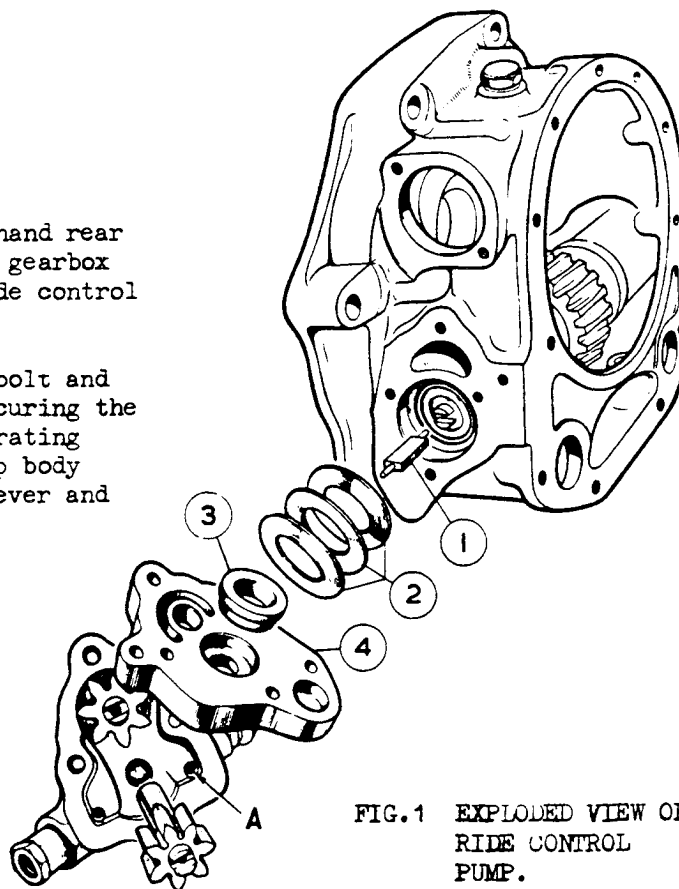
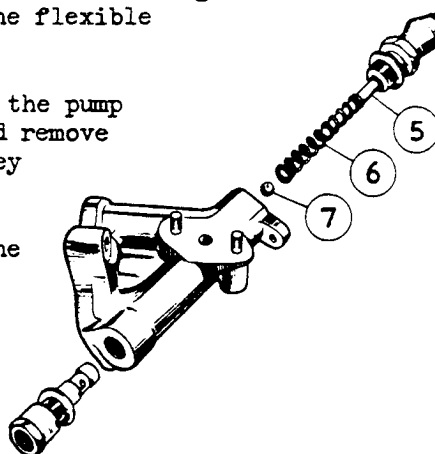

FIG.1 EXPLODED VIEW OF
FIG.2 THE PUMP AND VALVE ASSEMBLY.
- (iv) Remove the four screws retaining the pump to the gearbox rear extension and remove the pump. Collect the driving key (1 Fig.1).
- (v) Remove the two screws securing the intermediate plate (4). The plate will spring outwards as the screws are loosened under the influence of the three Belleville washer (2) which apply the pre-load to the taper bearing. Remove the plate and collect the Belleville washers and distance piece (3).
- (vi) Undo the hexagon nut and remove the ride control valve rod (5 Fig.2), spring (6) and steel ball (7).
- (viii) The pump intake passage is shown at A Fig.1. The drilling should be increased from .250" (6.3 mm) to .343" (8.7 mm). First enlarge the hole with a 5/16" drill and then with a 11/32" drill. In order that the drill may enter centrally, the shoulder on the pump flange may be relieved with a round file. Care must be taken to ensure that the drill does not protrude too far beyond the end of the drilling to damage the threads for the control valve rod nut.